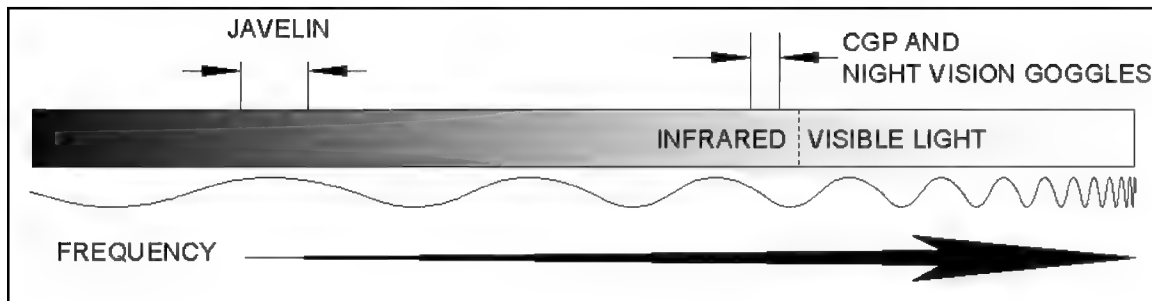

Figure E-2. Infrared band.
a. The Javelin operates, using frequencies in only a small part of the IR band (Figure E-2, page E-2). Other weapon systems operate in this same area, such as the TOW and Dragon, which means the gunner should be able to see anything with the TOW and the Dragon that he can see with the Javelin.